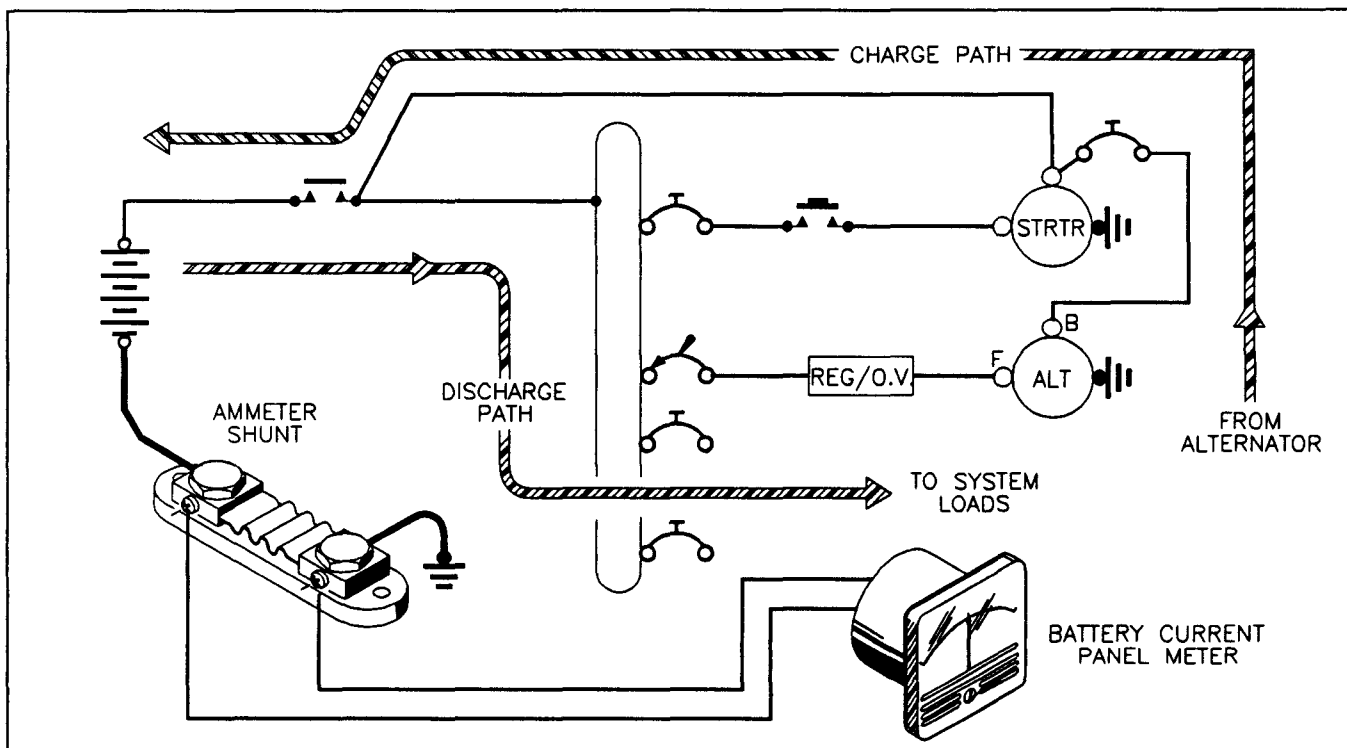

Figure 7-13. Battery Ammeter Shunt in the Battery Lead.
There are several alternatives. (1) It is perfectly okay to choose not to install a battery ammeter. A voltmeter is second-most desirable as a single electrical system gage; we'll discuss them later in this chapter. (2) We may install an ammeter shunt as shown in Figure 7-13, or (3)
A shunt permits breaking the heavy current conductor in a location remote from the panel meter location. On very large airplanes, a hundred feet or more in wire may be used to connect a panel meter in the cockpit to a shunt buried in the guts of an airplane. Figure 7-13 shows a shunt installed in the battery cable. This is a practical way to meter battery current but it requires some special considerations. First, I would recommend using a 100-Amp, 100 mV shunt in place of a 50-Amp, 50 mV shunt. Both shunts are the same resistance, 1-milliohm. However, the 100 amp shunt will not be damaged by 150-250 amp cranking currents as this represents only a 1.5-2.5 times overload and only for a few seconds. For a 50-Amp shunt, these same cranking currents would represent a 3-5 times overload. Secondly, while cranking, the ammeter needle will be pegged on the discharge side. It may even hit the peg with an audible "click." This action will not damage a well built meter but it does sound bad. Recall that my junk box meter had a full